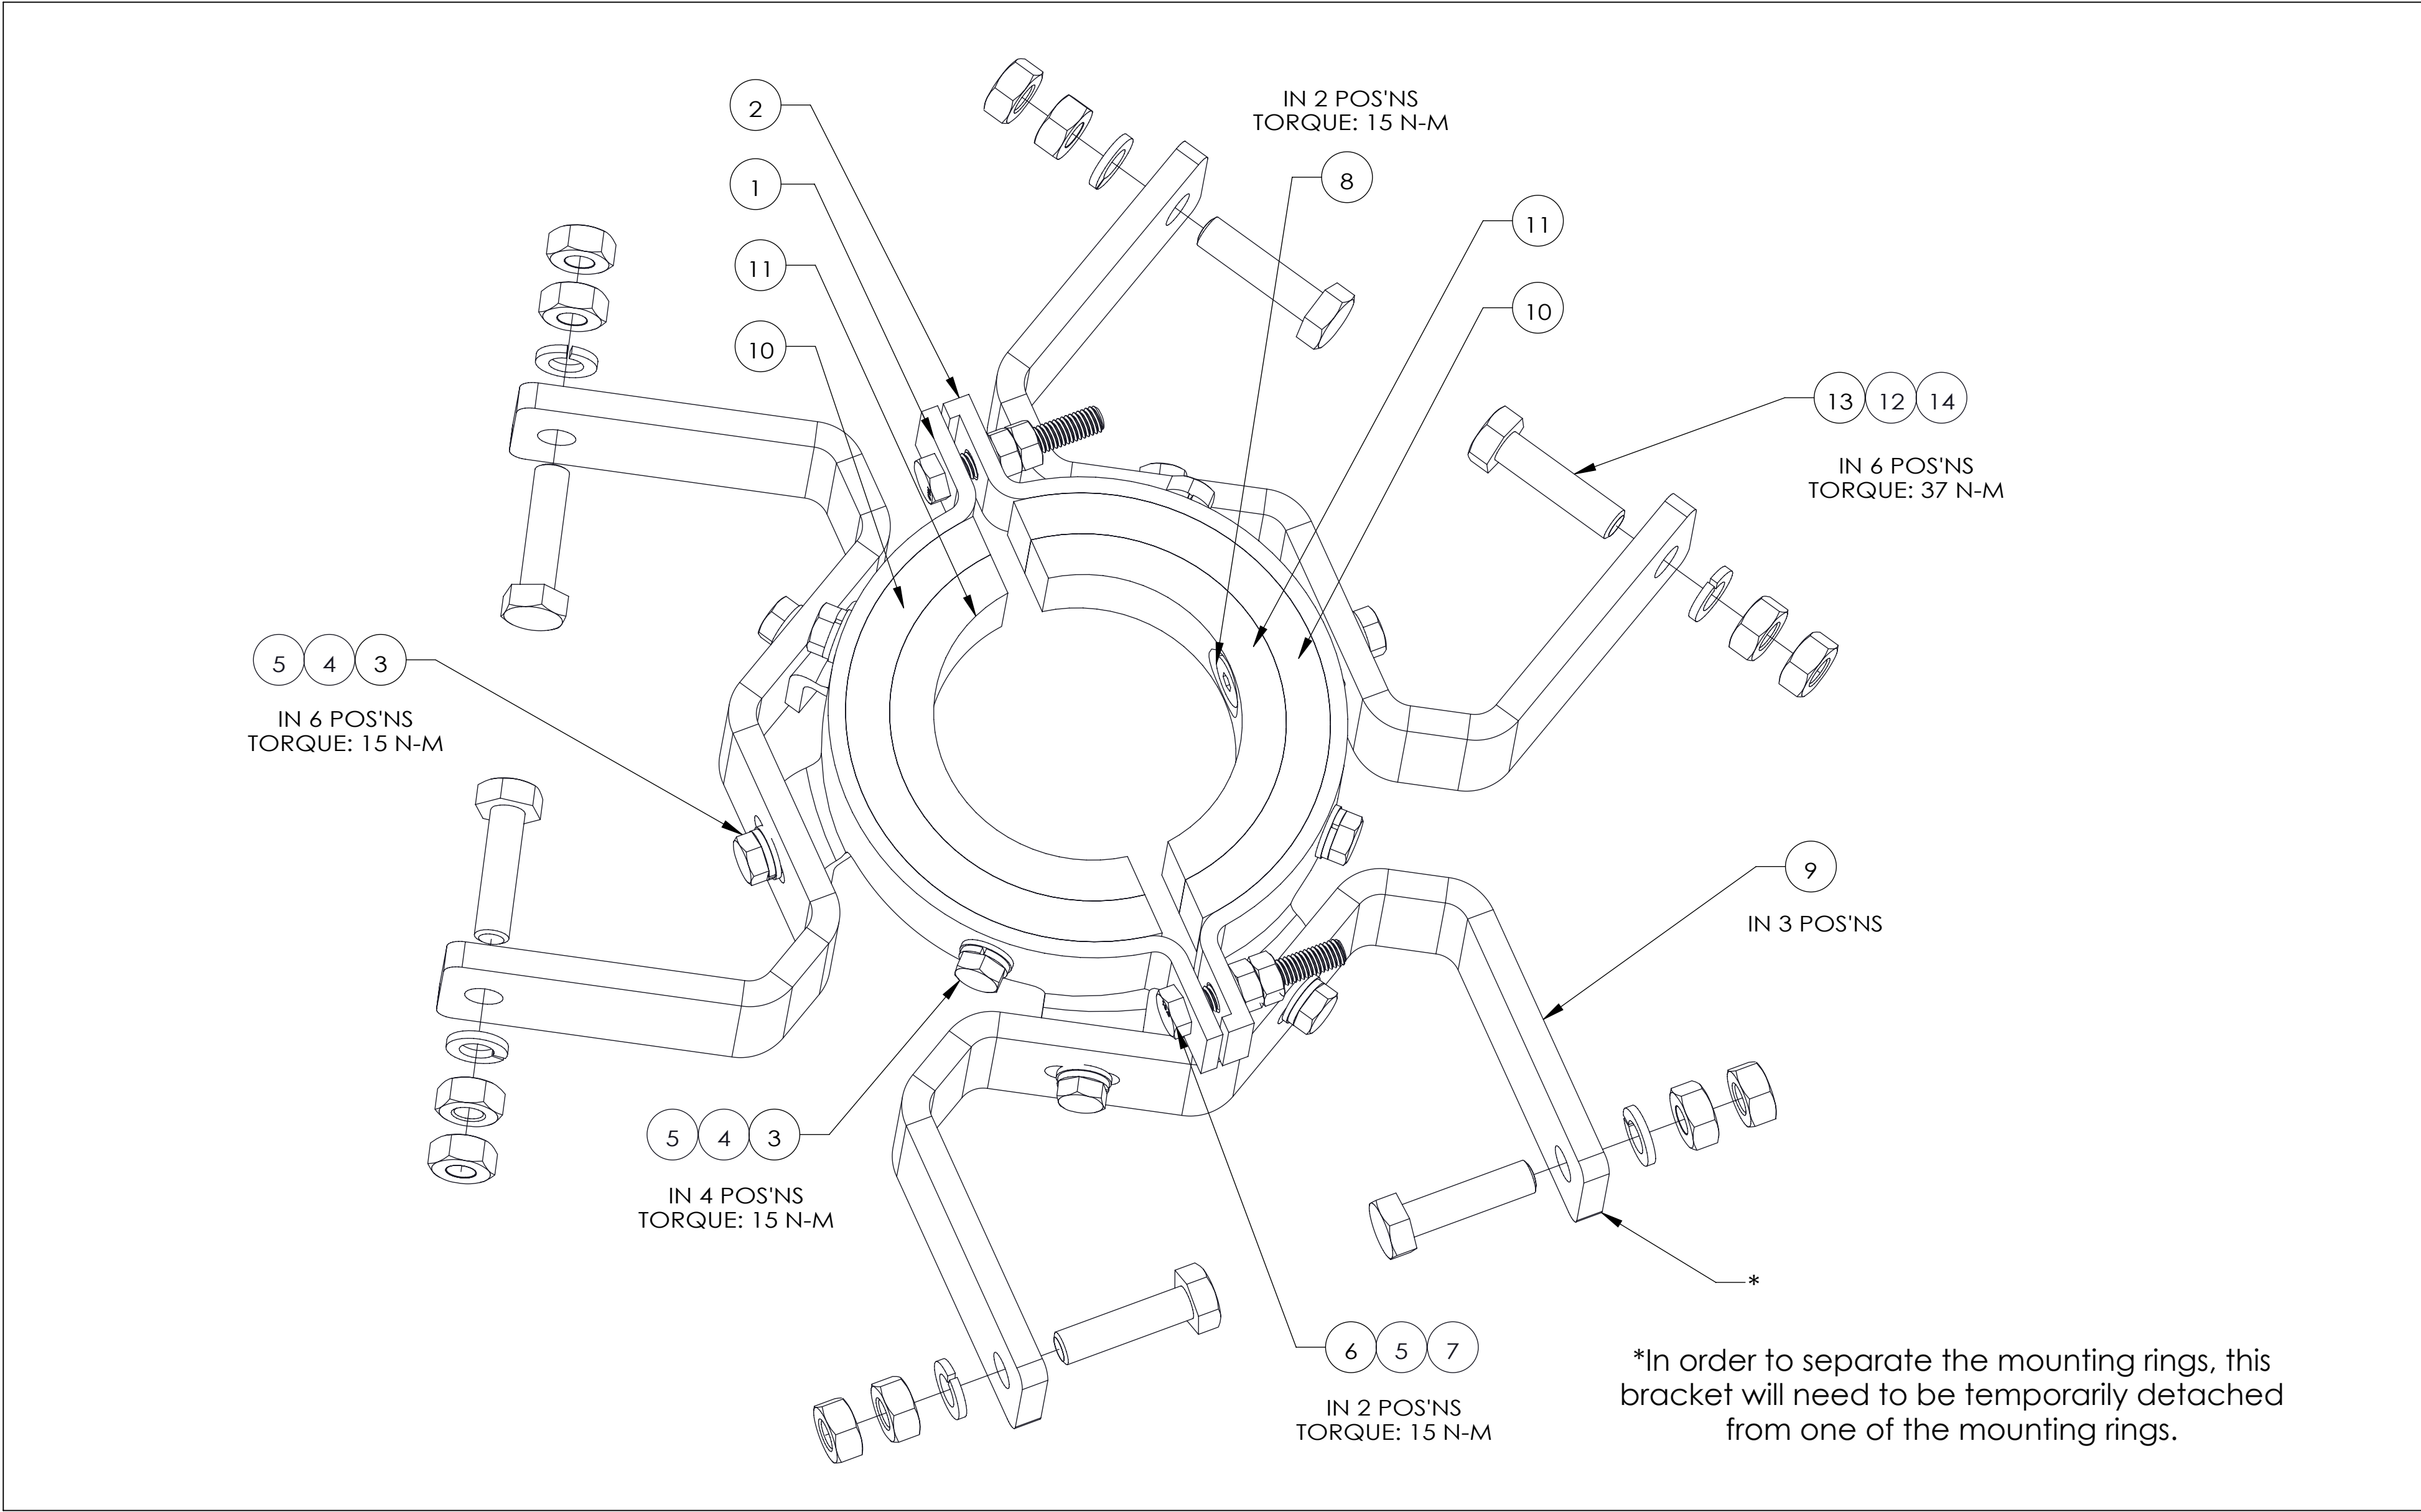

Figure 2. Top APM60-3C-DT Assembly.
2. Separate the mounting rings (Items 1 and 2, Figure 2) to prepare for attaching the assembly to the pole. Note that in order to separate the mounting rings, the bracket noted in Figure 2 will temporarily need to be removed from one of the mounting rings.
4. If the APM60-3C-DT assembly will be mounted to a 114.3mm(4.5”) pole, remove the 88.9mm(3.5”) pipe adapter (Item 11, Figure 2) and proceed to step 6.
5. If the APM60-3C-DT assembly will be mounted to a 139.7mm(5.5”) pole, remove both pipe adapters (Items 10 and 11, Figure 2) and proceed to step 6.